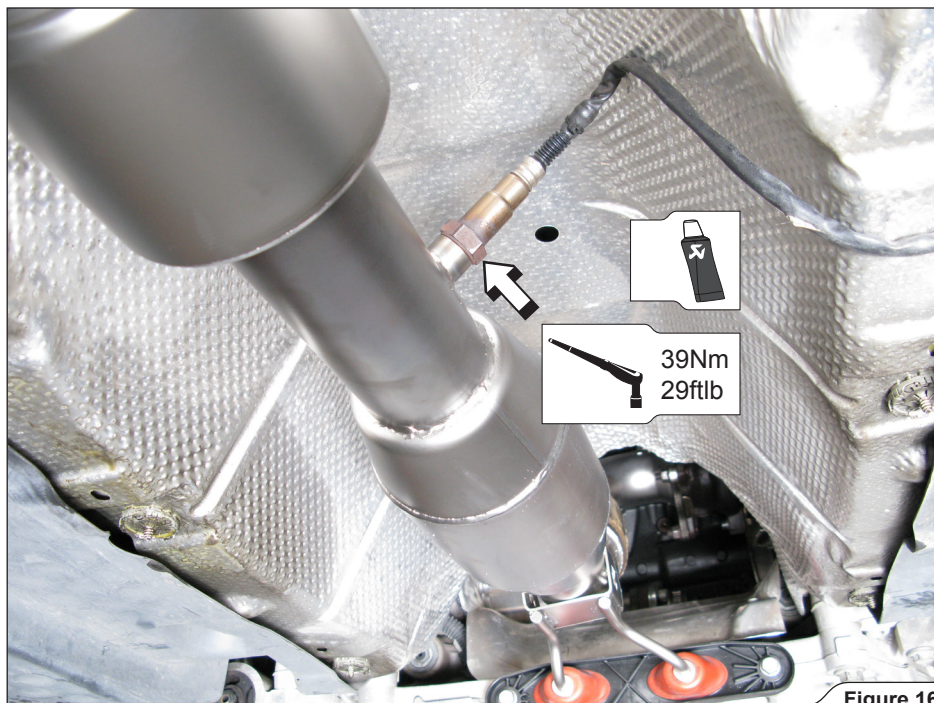

Figure 16
4. Screw the rear lambda sensor (Figure 16).